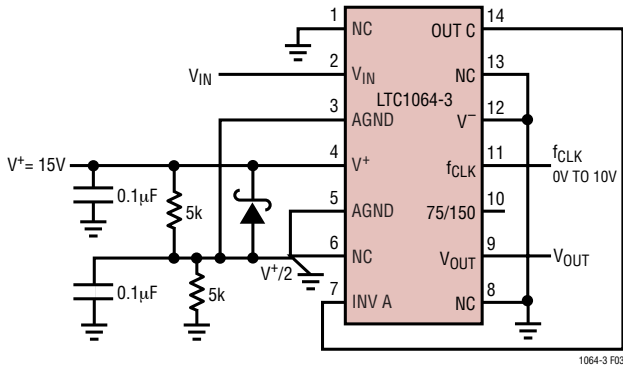

Figure 3. Single Supply Operation. If Fast Power Up or Down Transients are Expected, Use a 1N5817 Schottky Diode Between Pin 4 and Pin 5
**AGND (Pins 3, 5):** For dual supply operation these pins should be connected to a ground plane. For single supply operation both pins should be tied to one half supply (Figure 3).